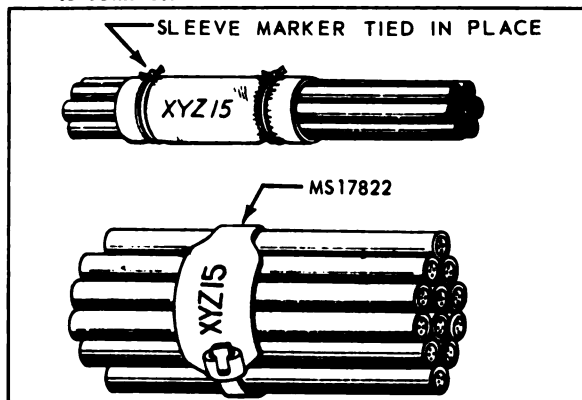

Figure 2-16. Identification of Wire Bundles & Harnesses
2-36. **IDENTIFICATION OF WIRE BUNDLES AND HARNESES.** See figure 2-16. Identify wire bundles and harnesses by one of the following methods:
b. Wire bundles up to 1- $\frac{3}{4}$ inch in diameter may be identified by means of an MS17822 cable identification strap which has a marking tab as part of it. See figure 2-16. The procedure is as follows: